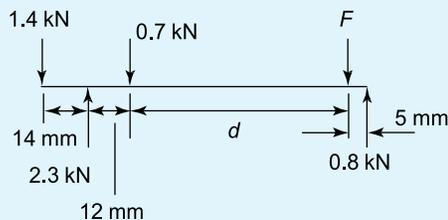

Figure 5.17
2. For the force system shown in Figure 5.17, find the values of F and d for the system to be in equilibrium.